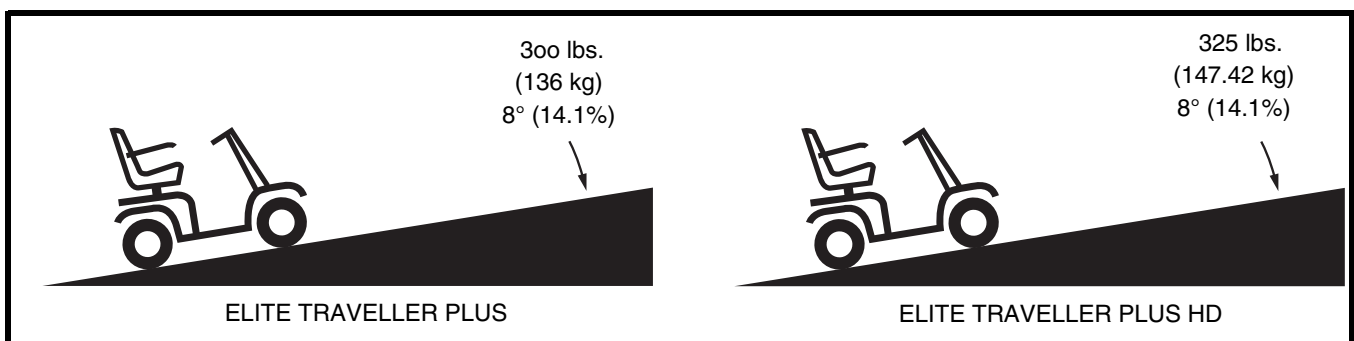

Figure 1. Maximum Recommended Incline Angle
**WARNING!** Even though your Travel Scooter is capable of climbing slopes greater than those illustrated in figure 1, do not, under any circumstances, exceed the incline guidelines or any other specifications presented in this manual. Doing so could cause instability in your Travel Scooter.
Handicap public access ramps are not subject to government regulation in all countries, and therefore do not necessarily share the same standard percent of slope. Other inclines may be natural or, if man-made, not designed specifically for Travel Scooters. **Figure 1** illustrates your Travel Scooter's stability and its ability to climb grades under various weight loads and under controlled testing conditions.
**WARNING!** Any attempt to climb or descend a slope steeper than what is shown in figure 1 may put your Travel Scooter in an unstable position and cause it to tip.